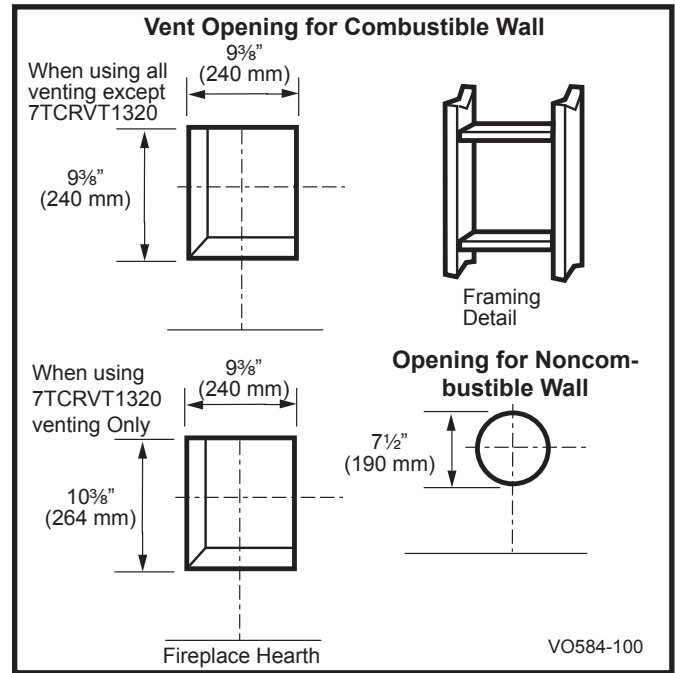

Fig. 17 Locate vent opening on wall.
**Combustible Walls** (Fig. 17): Cut a 93/8"H x 93/8" W (240 x 240 mm) hole through the exterior wall and frame as shown. For 7TCRVT1320 cut a 103/8"H x 93/8" W (264 x 240 mm) hole.
**Noncombustible Walls** (Fig. 17): Hole opening must be 71/2" (190 mm) in diameter.
Locate vent opening on the wall. It may be necessary to first position the fireplace and measure to obtain hole location. Depending on whether the wall is combustible or noncombustible, cut opening to size. (Page 13, Fig. 17)
**Combustible Walls** (Fig. 17): Cut a 9 $\frac{1}{8}$ "H x 9 $\frac{1}{8}$ " W (240 x 240 mm) hole through the exterior wall and frame. For 7TCRVT1320 cut a 10 $\frac{1}{8}$ "H x 9 $\frac{1}{8}$ " W (264 x 240 mm) hole.
**Noncombustible Walls** (Fig. 17): Hole opening must be 7.5" (190 mm) in diameter.